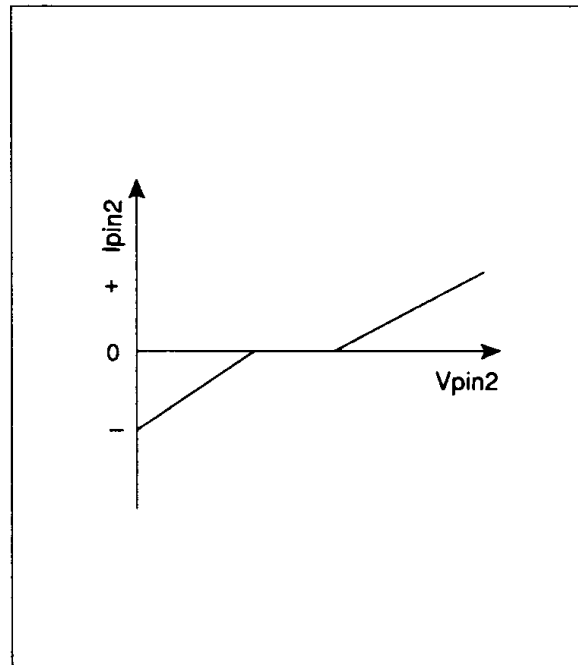
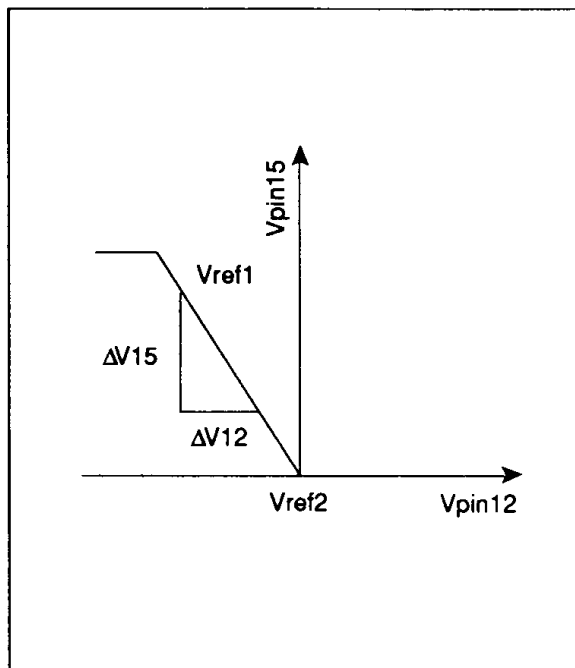

Figure 2
Figure 3
3. See Figure 2.
5. Voltage from V_{ref2}.
6. See Figure 3. $G_{ct1}=20\log_{10} \frac{\Delta V_{15}}{\Delta V_{12}}$